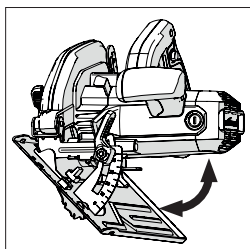

Fig. 14
- Tilt the blade to the required angle as indicated on the quadrant protractor scale. **(Fig. 14)**
(14) OPERATING ADVICE (PRE OPERATION CHECKS)